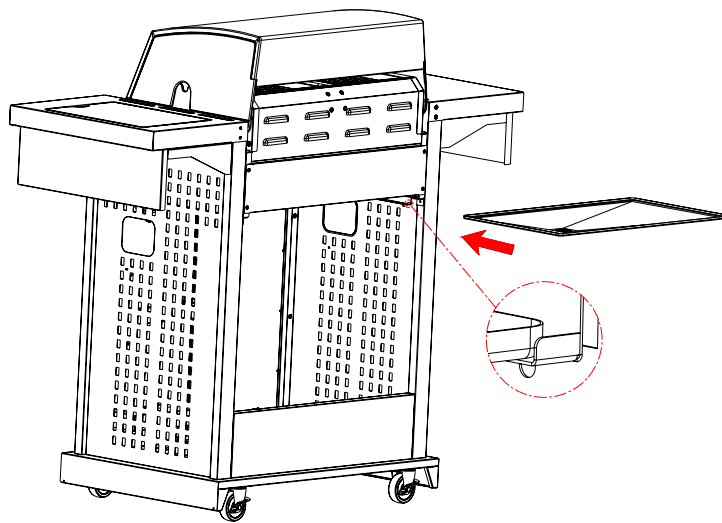

Fig.13a
1. Take out the grease accumulate panel from the fire box, ensure the convex face is down and the drip cup hole is on left side of grease accumulate panel (when viewed from the rear) to ensure it will hold grease and put it back as shown in Fig.13a.